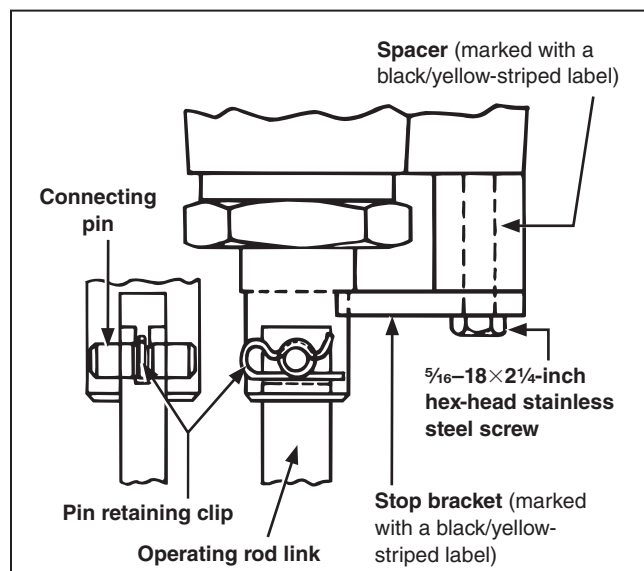

Figure 17. Connecting the interrupter to the operating rod link.
- (h) Insert the connecting pin retained from Step 3(c) on page 18 into the coupling and operating rod link. See Figure 17. Loosen the $\frac{5}{16}$ -18 \times 2 $\frac{1}{4}$ -inch hex-head stainless steel screw indicated in Figure 17 and withdraw it approximately $\frac{1}{8}$ -inch (3 mm) so the connecting pin can be inserted. **Do not remove the stop bracket screw at this time.**
- (i) Insert the pin retaining clip as indicated in Figure 17. Make sure the clip is positioned as shown.
- (j) Remove and discard the $\frac{5}{16}$ -18 \times 2 $\frac{1}{4}$ -inch hex head stainless steel screw, stop bracket (marked with a black/yellow-striped label), and spacer (marked with a black/yellow-striped label) illustrated in Figure 17.
- The interrupter coupling has been connected to its insulated operating rod link (See Figure 17 on page 19.)